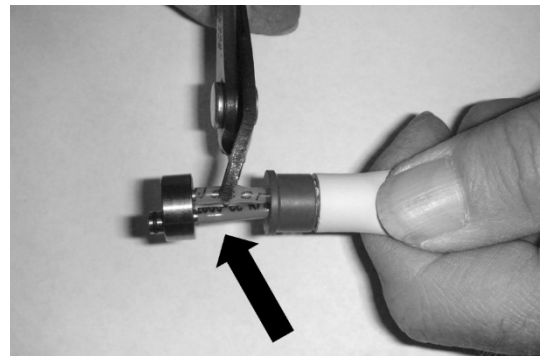

Fig. 4
- 6 Using side cutters or scissors, clip all tubing as close to the barb as possible. Make sure to allow slack on the tubing for reattaching to the new connector. (Fig. 4)